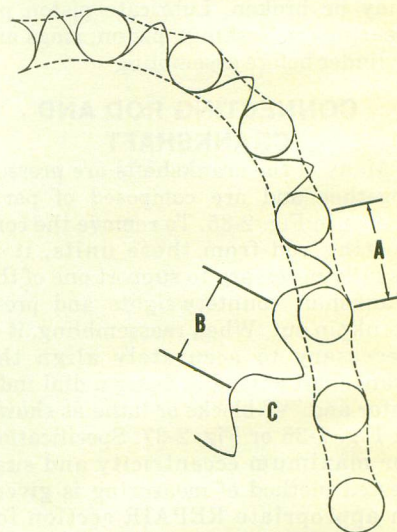

Fig. 2-48—Chain pitch (A) must exactly equal sprocket pitch (B) to prevent excessive wear on bearing edge of sprocket tooth (C). Refer to text.
Sprocket tooth profile is precisely ground to fit the roller diameter and chain pitch, Refer to Fig. 2-48. When chain and sprocket are new, the chain moves around the sprocket smoothly with a minimum of friction, and the load is evenly distributed over several sprocket teeth. Wear on pins and bushings of a roller chain results in a lengthening or "stretch" of each individual chain pitch as well as a lengthening of the complete chain. The worn chain, therefore, no longer perfectly fits the sprocket. Each roller contacts the sprocket tooth higher up on the bearing area (C) and that tooth bears the total load until the next tooth and